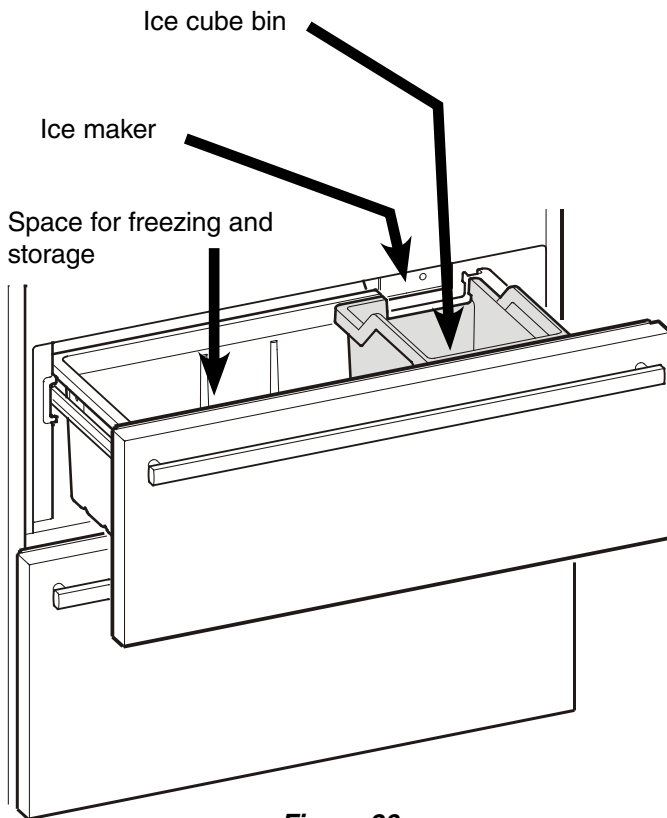

Figure 20
Description - Figure 20
- The Ice Maker can only make ice cubes if the upper freezer drawer is completely closed and the ice cube bin is installed correctly (**Figure 20**).
- Finally clean the ice cube bin (**Figure 20**).
The ice cubes fall out of the Ice Maker into the ice cube bin (**Figure 20**). When the ice reaches a certain level in the bin, the appliance stops producing ice automatically. The ice maker will not fill the bin to the top.
Be sure the upper freezer drawer is completely closed and the ice cube bin is installed correctly. (**Figure 20**).